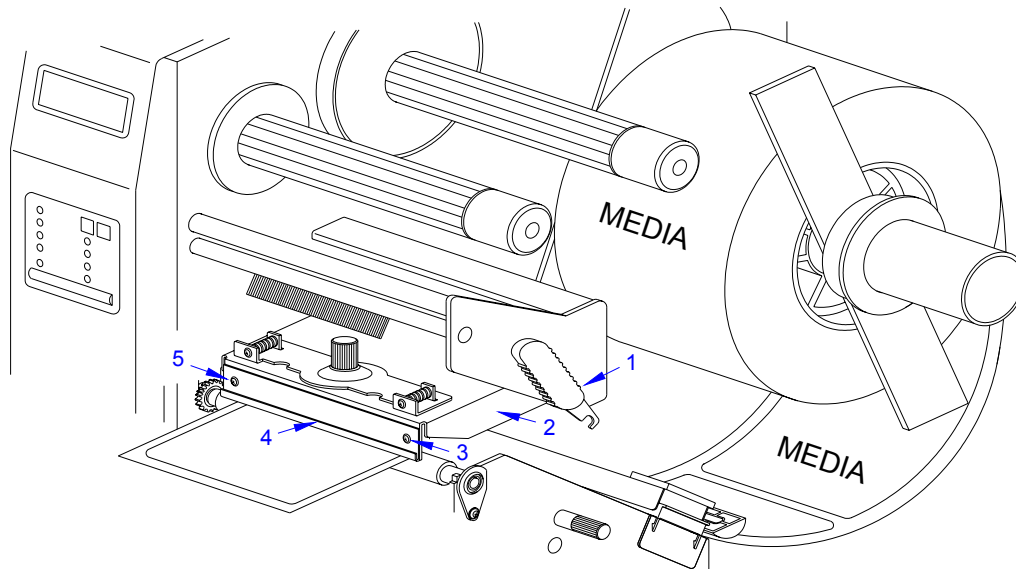

Figure 8-4, Ribbon Guide Plate Adjustment
- 3 Manually manipulate print head latch (1, Figure 8-4) to open print head (2).